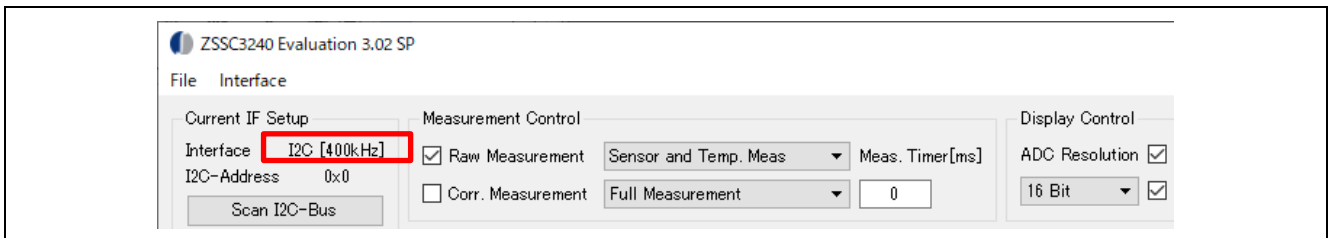

Figure 72. Current IF Setup Interface
- 2. If the Interface display does not change to **I2C [400 kHz]** as shown in Figure 72, select **I2C** from the **Interface** menu again.